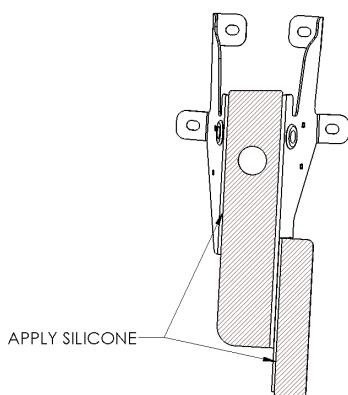

Figure 9
- Apply silicone to inner bracket (IBD/IBP) faces (see figure 9).
- a. Apply silicone to outer bracket faces (same as figure 9 from step 7a).
- d. Fasten outer visor sections D/P to center visor section C using (3) 1/4-20 x 3/4" bolts with flat washers and locknuts.
- e. Fasten the outer visor halves D/P to the Ear Brackets EBD/EBP with (2) *polished* 1/4-20 carriage bolts, with washers, and locknuts at each side.